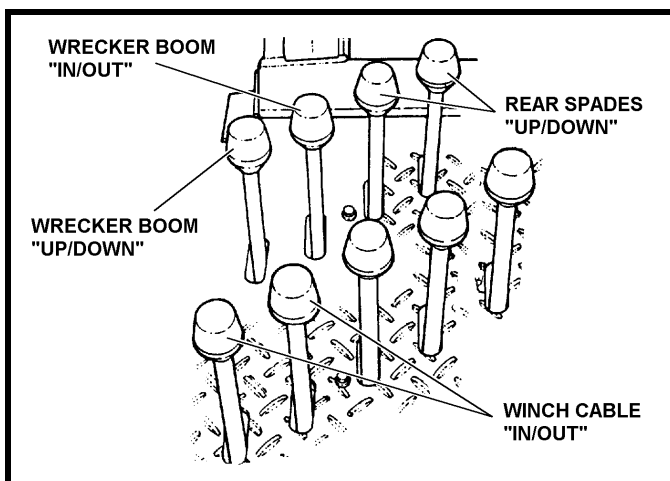

FIGURE 3.2
- 3.2** Each function of the Wrecker can be controlled from either of the dual Control Stations located at the rear of the wrecker body. See Figure 3.2.